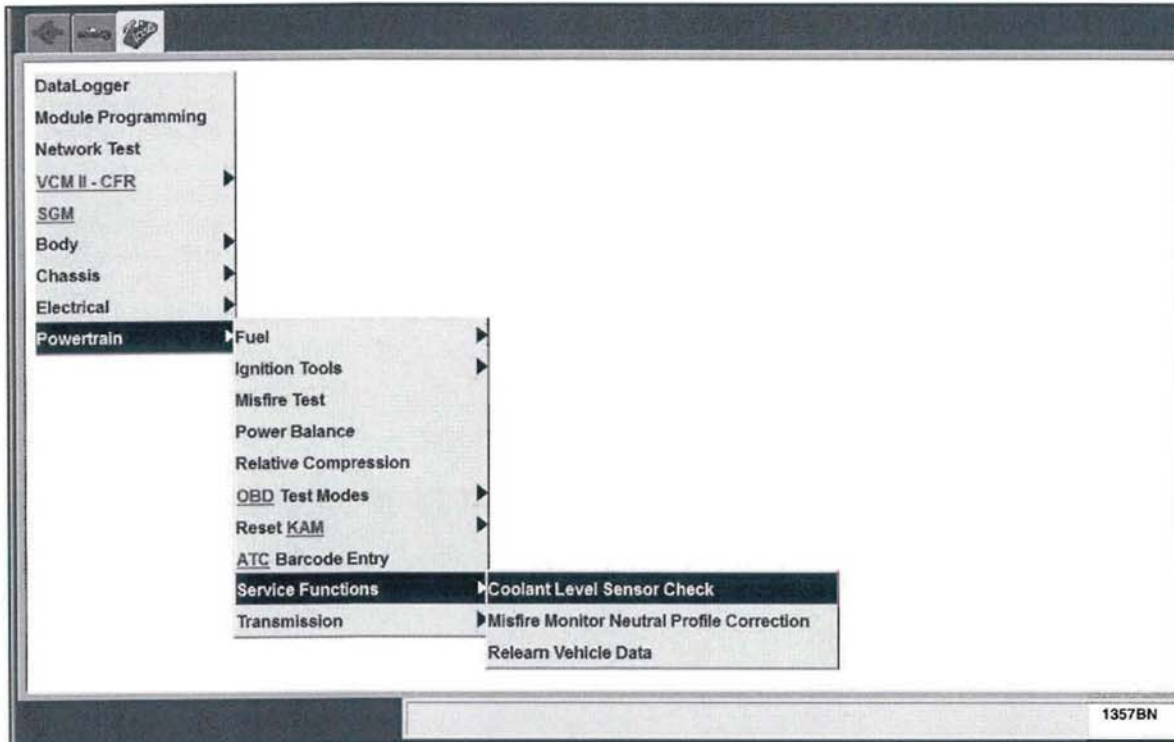

FIGURE N3
12. Using IDS select "Coolant Level Sensor Check". See Figure N3.